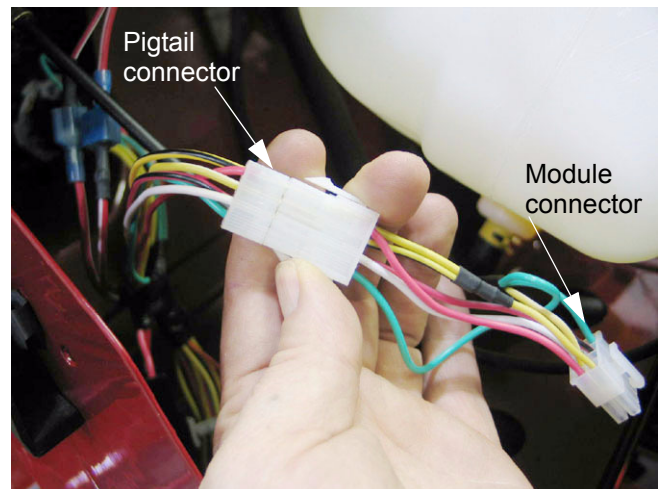

Figure 17.16
17.16. Yellow wire with white trace from 8-pin pigtail connector: See Figure 17.16.